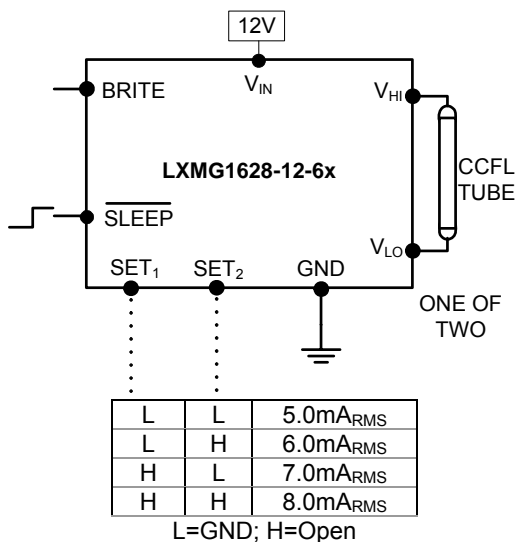

Figure 2 – Maximum Output Current
- Use the SET₁ and SET₂ (see Figure 2) inputs to select the desired maximum output current. Using these two pins in combination allows the inverter to match a wide variety of panels from different manufacturers. Generally the best lamp lifetime correlates with driving the CCFL at the manufacturer's nominal current setting. However the SET₁ and SET₂ inputs allow the user the flexibility to adjust the current to the maximum allowable output current to increase panel brightness at the expense of some reduced lamp life.